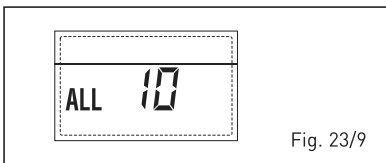

Fig. 23/9
– **INTERVENÇÃO SONDA FUMOS “ALL 13”** (fig. 23/10)